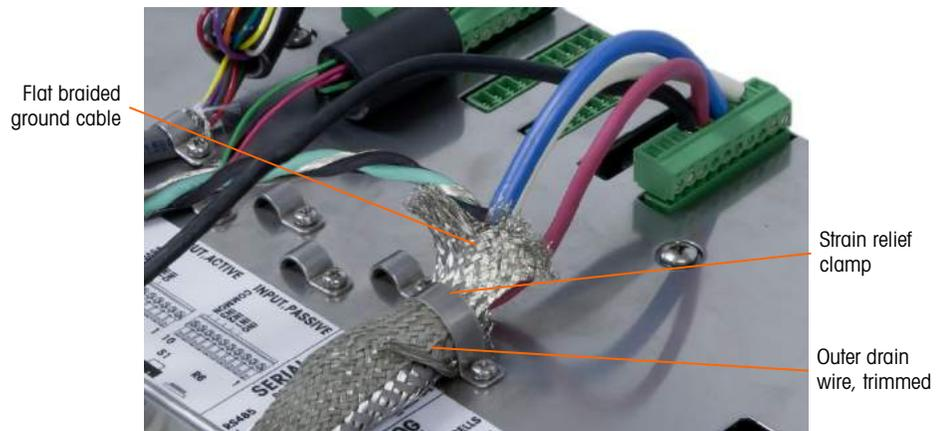

Figure A-68: POWERCELL PDX Home Run Outer Braid Termination, Panel Mount Enclosure
- b. Slide forward the outer braid to cover over the inner braid and foil. Pull the outer drain wire back over the outer braid and trim it to approximately 25 mm (1 inch). Place the flat braided ground cable around the home run cable and the drain wire before finally securing everything to the back cover of the IND780 using the large strain relief cable clamp provided with the unit (Figure A-68). The other end of the flat braided cable is terminated at the ground rod.